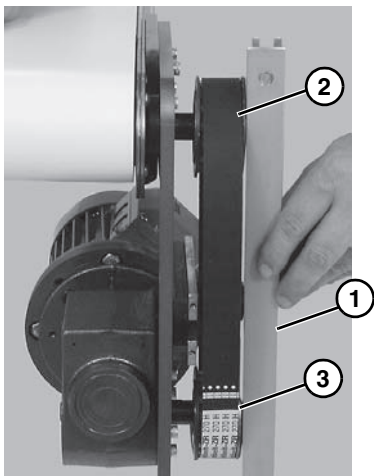

Figure 9
7. Using a straight edge (**Figure 9, item 1**), align driven pulley (**Figure 9, item 1**) with drive pulley (**Figure 9, item 1**).